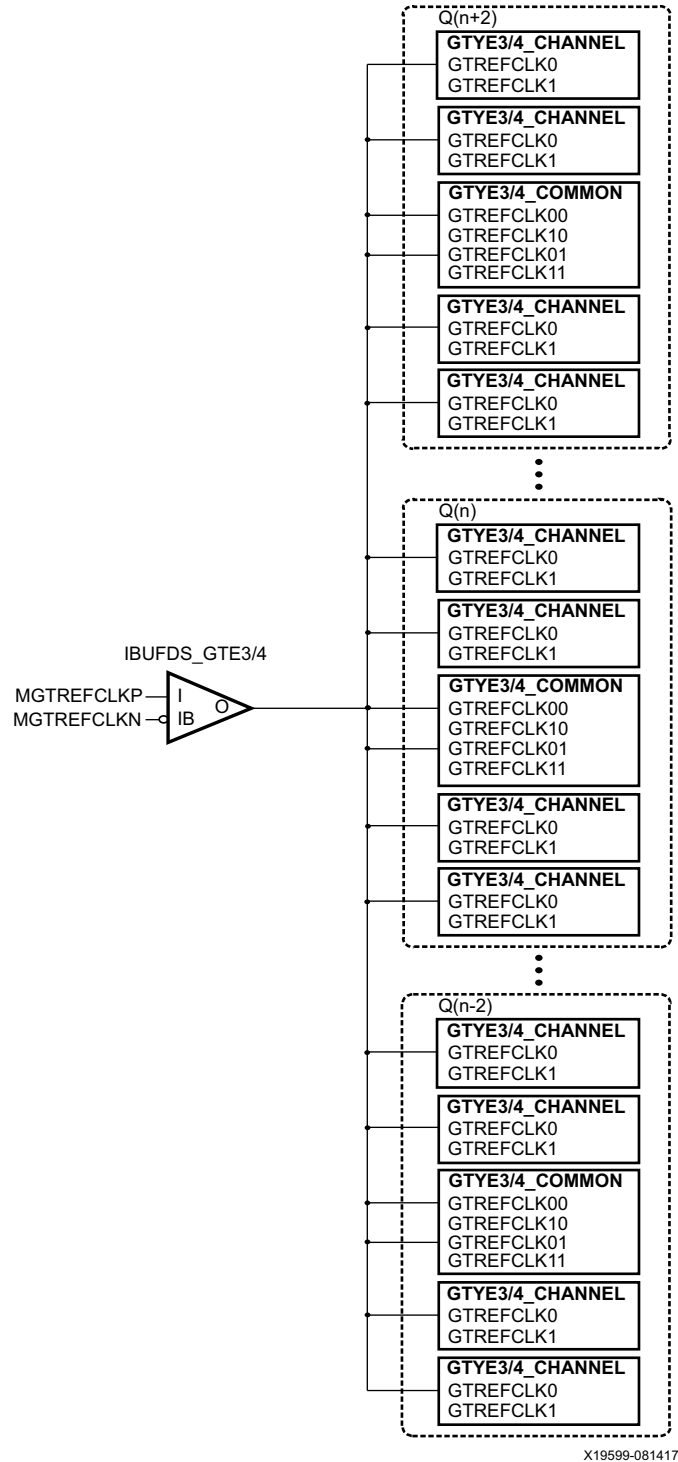

Figure 2-7: Single External Reference Clock with Multiple Transceivers in Multiple Quads
Figure 2-7 shows a single external reference clock with multiple transceivers connected to multiple Quads. The user design connects the IBUDFS\_GTE3/4 output (O) to the GTREFCLK0 ports of the GTYE3/4\_COMMON and GTYE3/4\_CHANNEL primitives for the GTY transceiver. In this case, the Xilinx implementation tools make the necessary adjustments to the north/south routing as well as pin swapping necessary to route the reference clocks from one Quad to another when required.
**Note:** The `IBUFDS_GTE3/4` diagram in Figure 2-7 is a simplification. The output port `ODIV2` is left floating, and the input port `CEB` is set to logic 0.